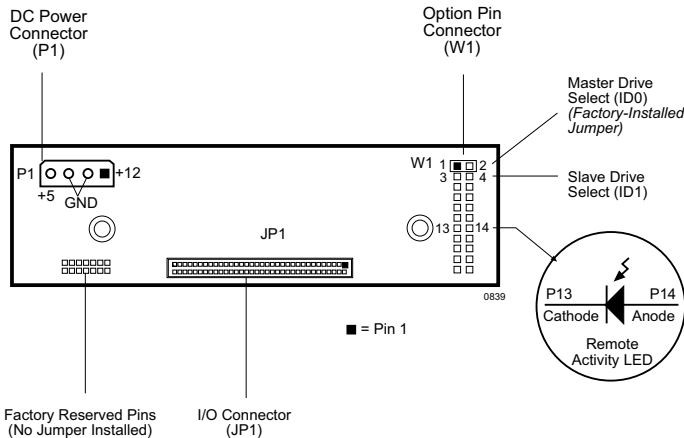

Figure 5: Receiving Frame Motherboard (Rear View)
(Figure 5)
- **I/O Connector (JP1)** - The input/output connector provides a standard interface for all IDE signals (Figure 5).
With *Cable Selection*, the Master/Slave designation is handled by the Master/Slave Selection Jumper Option (ID0 & ID1) located on the receiving frame motherboard (Figure 5). If necessary, reconfigure jumper (jumper is factory-installed on ID0 for Master Drive designation) on receiving frame motherboard to ID1 for Slave setting. *Skip method below and continue with the Installation process.*
5. Connect the I/O cable from the host adapter to the receiving frame. The Pin 1 indicator on the cable must be properly aligned. Refer to Figure 5 for the correct Pin 1 location.
6. Connect the power cable from the DC power supply in the computer or expansion chassis to the power connector on the DE110 receiving frame. Refer to Figure 5 for the DE110 receiving frame power connector location.